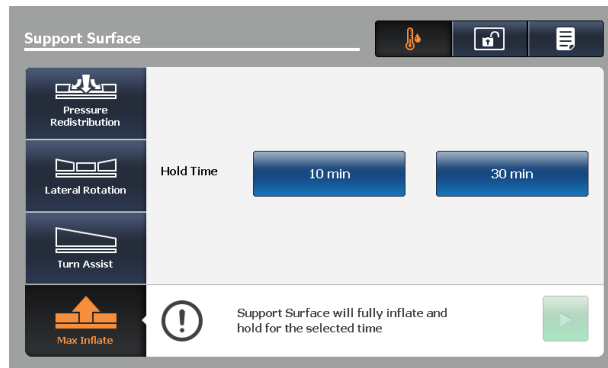

Figure 61 – Max inflate screen
1. Tap **Max Inflate** (Figure 61).